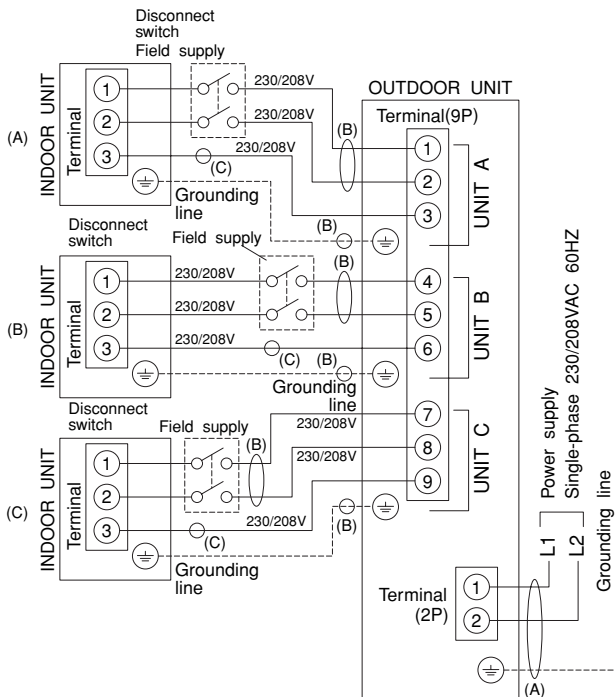

Fig. 25a
Refer to the wiring system diagram (Fig. 25a or 25b) for the meaning of (A), (B), and (C) in Table 6.